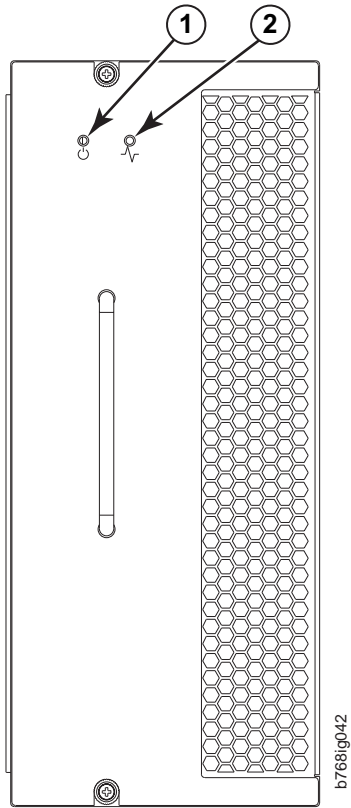

Figure 22. Blower assembly LEDs
1. Check the LED indicators on the blower assembly (see Figure 22 on page 52). The LED patterns may temporarily change during POST and other diagnostic tests; for information about how to interpret the LED patterns, see Table 10 on page 52.
Figure 22 on page 52 displays the blower assembly.